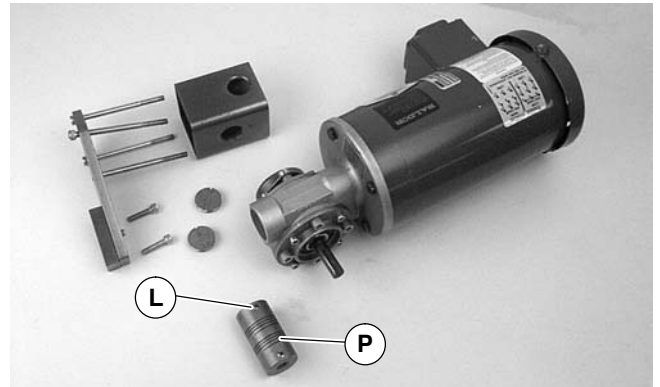

Figure 18
5. Loosen two (2) set screws (L of Figure 18) and detach coupling (P).
13. Attach coupling (P of Figure 18) to gear reducer shaft. Tighten two (2) set screws (L) to 3.7 N-m.